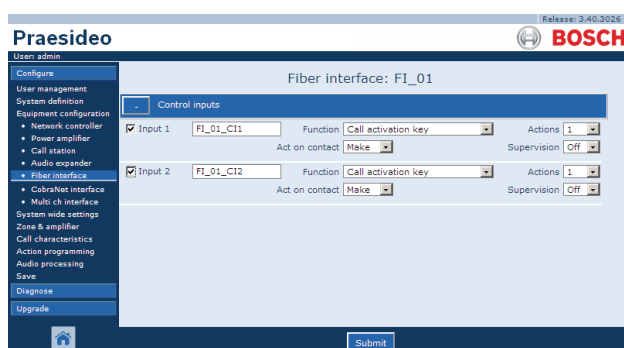

figure 44.51: Configure fiber interface, step 2
- 2 Click the name of the fiber interface that must be configured. A screen similar the one in figure 44.51 appears in the main frame of the web interface.